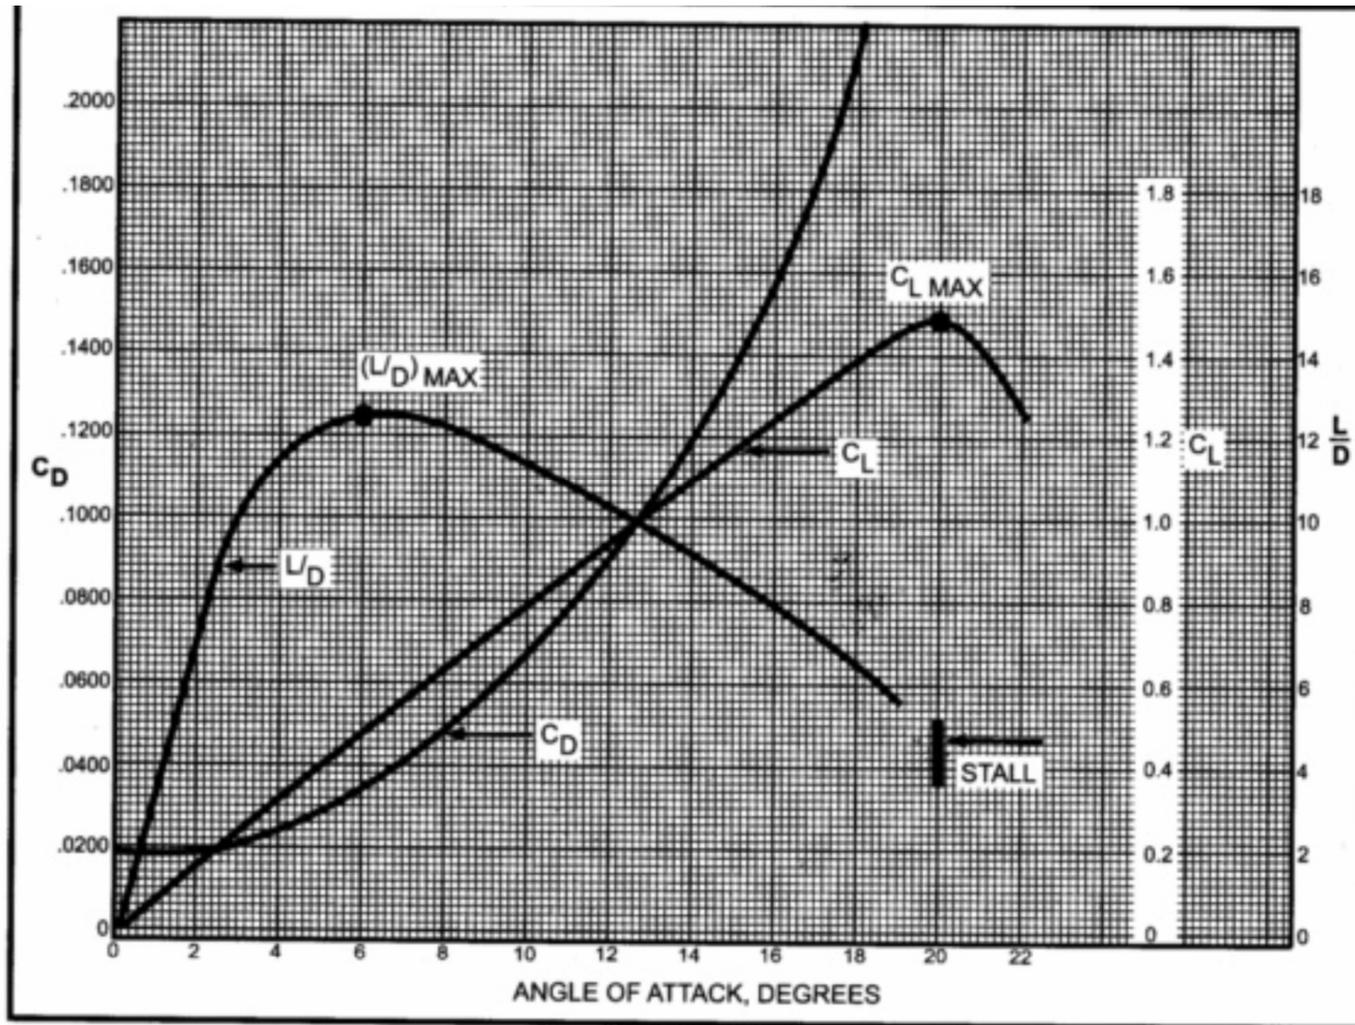

Figure 3. – Angle of Attack, Degrees.
31. (Refer to Figure 3 above.) The L/D ratio at a 2° angle of attack is approximately the same as the L/D ratio for a
DISCUSSION: Enter the bottom of the chart in Fig. 3 at 2° angle of attack and move vertically up to the L/D curve. From this point, move right horizontally to the point where the L/D curve intersects. Then move vertically down to the bottom of the chart to determine a 16.5° angle of attack. Thus, the L/D ratio is approximately the same at both a 2° and 16.5° angle of attack.